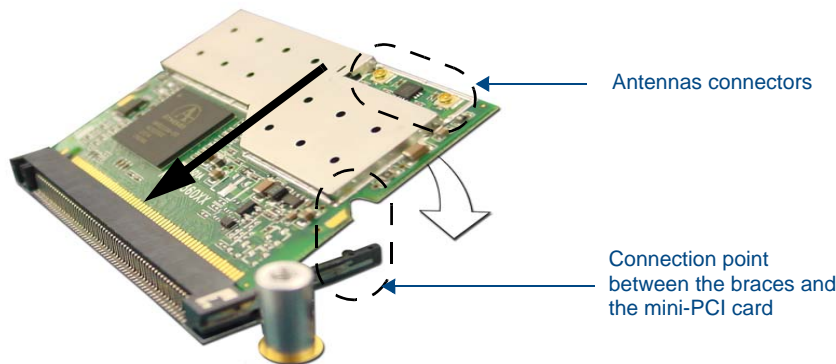

FIG. 20 Installation of the mini-PCI card connector on main board
4. Firmly grasp the NXA-PCI80211G mini-PCI card (from the edges) and insert the pins (at a 25° angle) into the opening on the connector (FIG. 20).
5. While maintaining the 25° angle alignment on the new module, push it in firmly until the contact pins are completely inside the connector and the card "snaps" into place (FIG. 20).
7. Locate the terminal ends of the antennas and apply downward pressure to "snap" them onto their gold-tipped counterparts on the mini-PCI card (FIG. 20). Carefully push down on each connector to verify it is securely joined to the card.